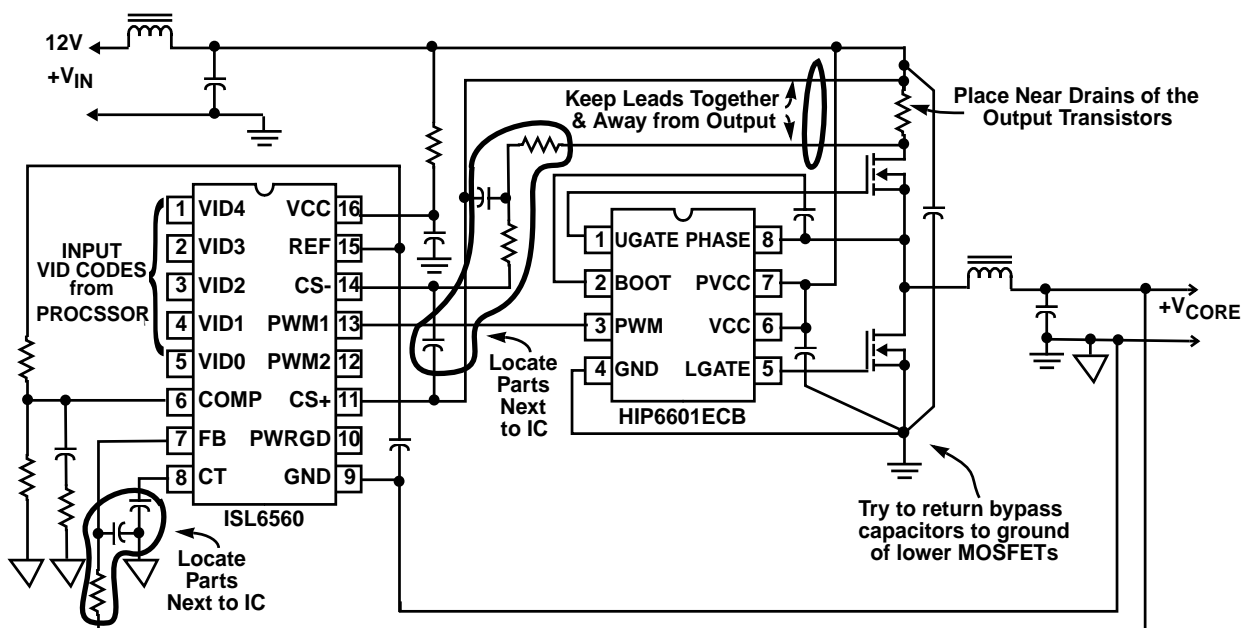

FIGURE 10. SCHEMATIC DIAGRAM SHOWING ONLY ONE CHANNEL OF "IDEAL" COMPONENT PLACEMENT
Figure 10 shows a simplified diagram highlighting the critical areas of a PC board layout. This diagram and the following material represent goals to work towards during the layout phase. Goals will be compromised during the layout process due to component placement and space constraints. The following text reviews these layout considerations in more detail.
1. To obtain optimum regulation use the Kelvin connection for the output voltage sample as shown on the Functional System Schematic Diagram of Figure 10. The ground connection, pin 9 of the ISL6560 should be connected to the system ground at the load.
2. The two voltage sampling lines described in item 1 above should also be routed away from any high current or high pulse voltages such as the phase lines or pads. Doing this will reduce the possibility of coupling undesired pulses into the feedback signal and either modifying the output of the error amplifier or, if of sufficient amplitude, spuriously triggering the current comparator by readjusting the threshold voltage.